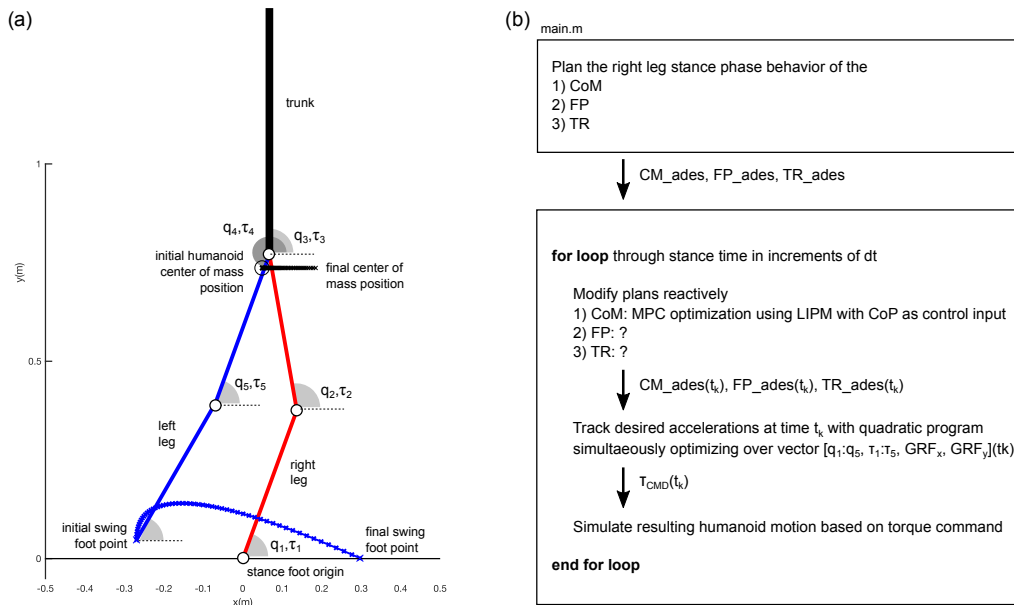

Figure 3: Schematic of humanoid (a) and its control based on optimization (b).
Download and unpack the file humanoid.zip. It contains the control and simulation code. To run the code, make sure the **Control System Toolbox** and the **Optimization Toolbox** are installed in Matlab. Now run the script main.m. You will see the control in action, driving a 5-link humanoid model through one stance phase of its right leg, which lasts about 540ms in this example. Figure 3-a shows this humanoid model at the beginning of the stance phase with some details on segment and joint conventions. Figure 3-b provides an overview of the general control flow.
4. Study the effect of changing μ on the humanoid behavior. Changing μ is telling the controller what ground condition it can expect. Set μ to 0.1 (slippery) and then to 0.01 (basically don't generate horizontal forces). With vertical GRF of about 400N, confirm with Matlab figure 3 generated by the code that your horizontal GRF max out at about 40N and 4N, respectively. How does this limitation on the horizontal GRF affect the tracking of the originally planned CoM motion (Matlab figure 2) in each case? (2pts)
at about 200ms into the stance phase (time index 20) and (b) actuator noise (code lines 40 to 50). Set the friction coefficient μ back to 0.8 and then play around with these two sources of uncertainty in humanoid control. What happens if a disturbance impulse of +20Ns is applied: Does the humanoid still follow its intended plan? If so, how is that accomplished (Matlab figure 2). How does actuator noise influence tracking the behavior goals (Matlab figure 3)? (3pts)